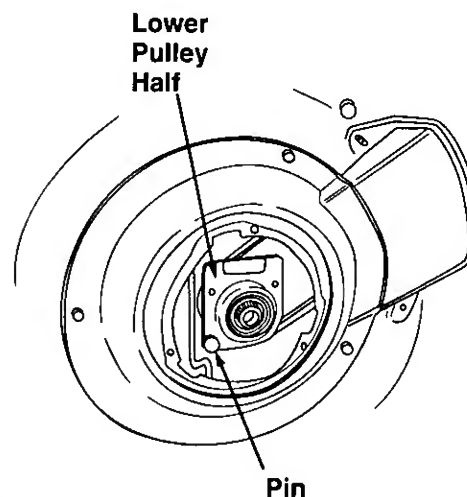

Figure 19.
- Rotate the lower pulley half 90° clockwise (see figure 19) and remove from mower. Remove the belt from around the crankshaft.